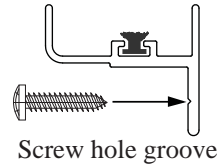
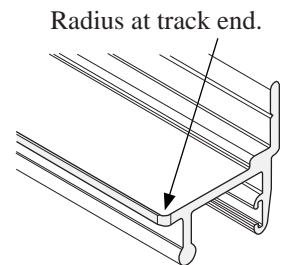

Figure 7
Figure 8
Drill three (3) 3/16" holes in the closer (#R6051), two approximately 4" from each end, one approximately in the middle using the groove in the closer flange (Figure 7). Note: Holes may be pre-drilled from the factory. The closer is designed to pocket the tracks. It may be installed without modifying the tracks, leaving a small gap. For a flush fit, the tracks may require a slight radius trimmed on them with a file as shown (Figure 8).